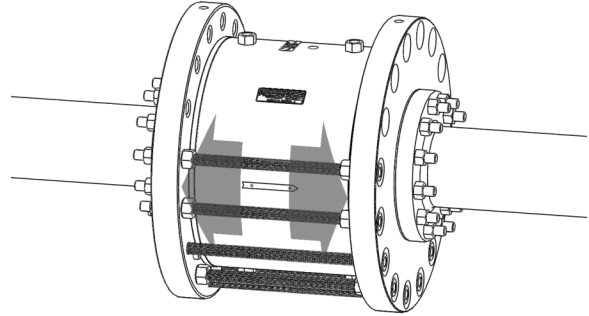

Figure 8 - Spread line flanges using jacking nuts.
4. Rotating each jacking nut  $\frac{1}{4}$  turn at a time, spread the line flanges apart so that each flange is tight against the remaining tie nut washers as shown in Figure 8 below.